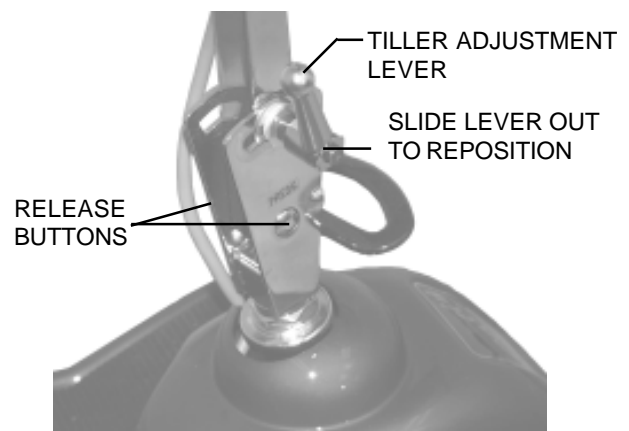

Figure 10. Adjusting The Tiller Angle
1. Turn the tiller adjustment lever counterclockwise until it is loose. If the tiller adjustment lever comes in contact with the tiller basket, pull it outward, turn it clockwise, and release it. Continue to loosen until the tiller is able to move. See figure 10.